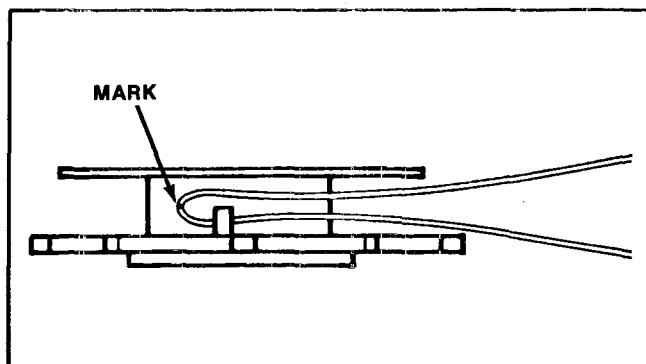

Figure 144
3. Thread the line through the retainer shown in Figure 144 until the mark and the retainer are aligned.